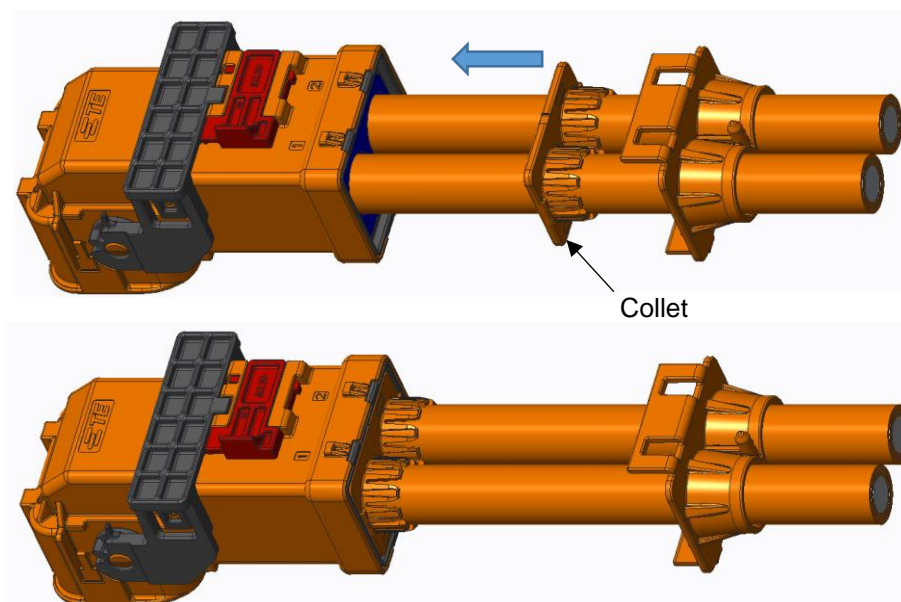

Figure 11: Collet Assembly
10. Slide the collet forward on the cable and into the spacer seal as shown in Figure 11.